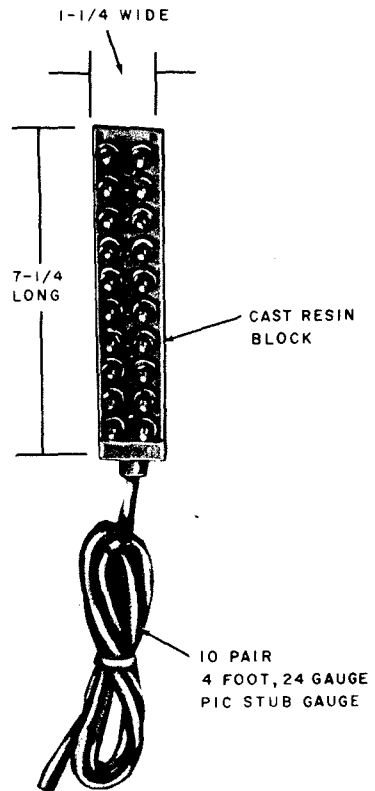

Fig. 3—9A1-10 Terminal Block
- (b) **9A1-10 Terminal Block**(Fig. 3)—a 10-pair nonprotected terminal block equipped with a 4-foot plastic insulated 24-gauge stub cable.